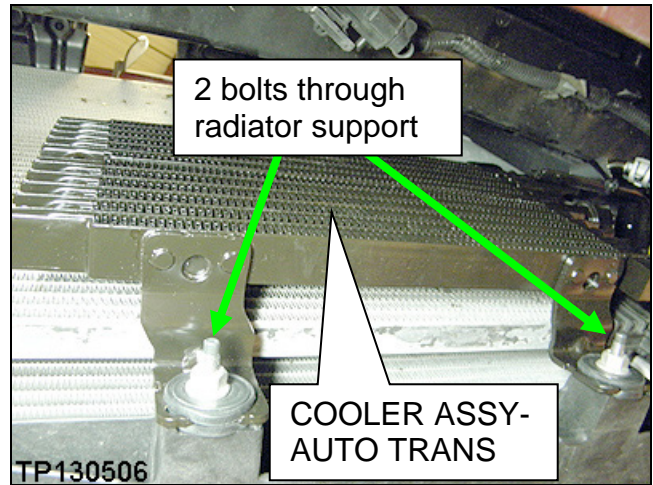
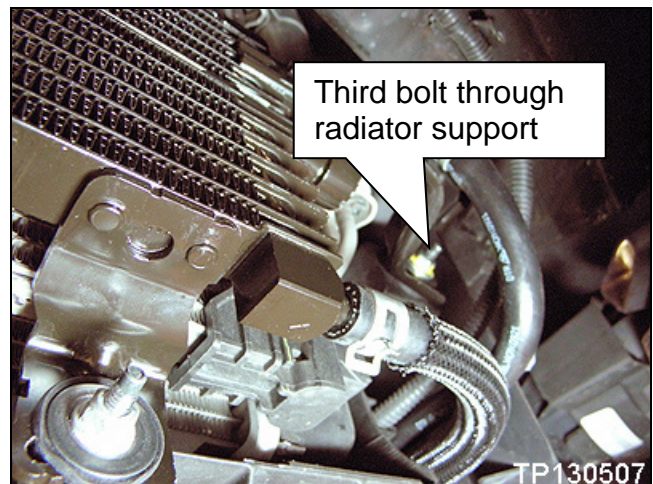

Figure 5
Figure 6
- a. Insert 3 bolts (Figure 5 and Figure 6) from the kit through the composite radiator support from the engine compartment side.
**NOTE:** Figure 5 is a view of the front of the radiator/condenser, taken from the bottom looking up.
3. Route both hoses through the radiator support shown in Figure 6.